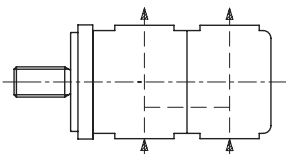

Fig 2
- Inlet port position - see figs 2 or 3